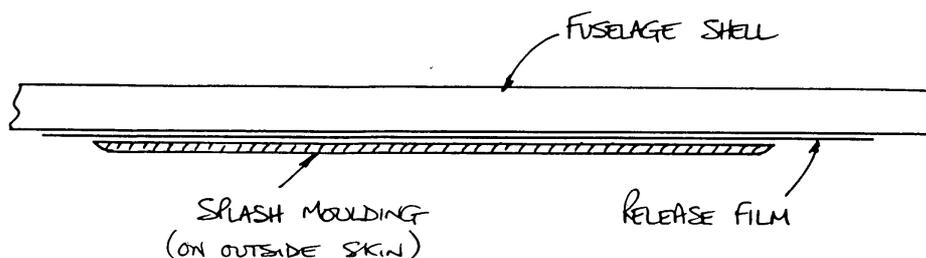

Fig 3. Layout of "splash".
Cut and carve pieces of scrap foam to fit between the door apertures as detailed in figure 3. Thoroughly scuff sand the area around where they will fit and squidge them in position with floc, then immediately lay-up three plies of 'bid' at $\pm 45^\circ$ to cover the foam and run on to the surrounding structure by approximately 3 cm (1-1/4"). Cover with peel ply and, having made sure the moulding is properly supported and not twisted, allow to cure before disturbing.
1. Cover the area where the access panel will be with plastic sheet to act as a release film. Lay-up a "splash" (a thin glassfibre moulding), to be used as a mould to make the panel from, onto the release film - (figure 3).